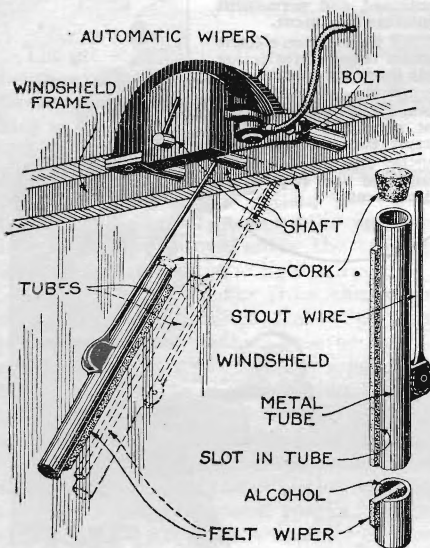

Fig. 1. Adjustment of a felt wiper to take sleet from outside or fog from inside of windshield
Then there usually is trouble in winter with sleet freezing on the glass, in spite of the operation of the wiper. Fig. 1 shows how to eliminate both fog on the inside of the glass and freezing sleet on the outside. Remove the regular rubber wiper and substitute a tubular piece with a strip of felt let into a slot in its side as shown. A mixture of alcohol and glycerin
**WALTER S. ESTBY**, of Buhl, Minn., wins the \$10 prize this month with his suggestion of a windshield wiper improvement (Fig. 1). Each month **POPULAR SCIENCE MONTHLY** awards \$10, in addition to regular space rates, to the reader sending in the best suggestion for motorists. Other contributions published are paid for at the usual rates.